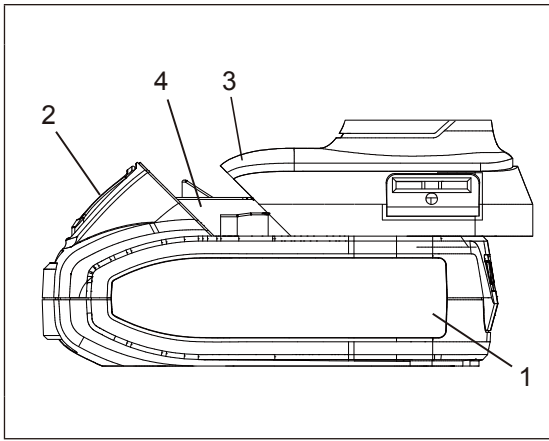

FIG. 3
1. Remove the discharged battery (1) from the drill by pressing downward on the battery release button (2) and sliding the battery backward until it is removed from the drill handle (3) (Fig. 3).
2. Slide the fully charged battery onto the matching keys (4) in the drill handle where the discharged battery has been removed.